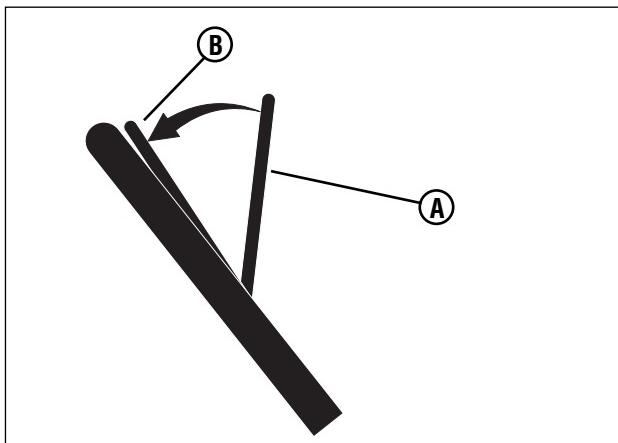

Figure 13: Operating the engine stop lever
Release the engine stop lever (**A**, **Figure 13**) and the engine and the blade will automatically stop. To run the engine, hold the engine stop lever in the Operating position (**B**).
1. Hold the engine stop lever (**A**, **Figure 13**) in the Operating Position (**B**).